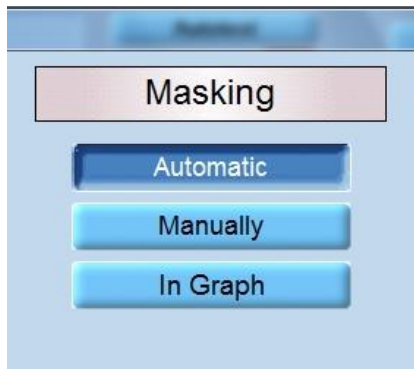

Figure 58
**In Graph:** To view the masking setting graphically, click **In Graph** (Figure 58).